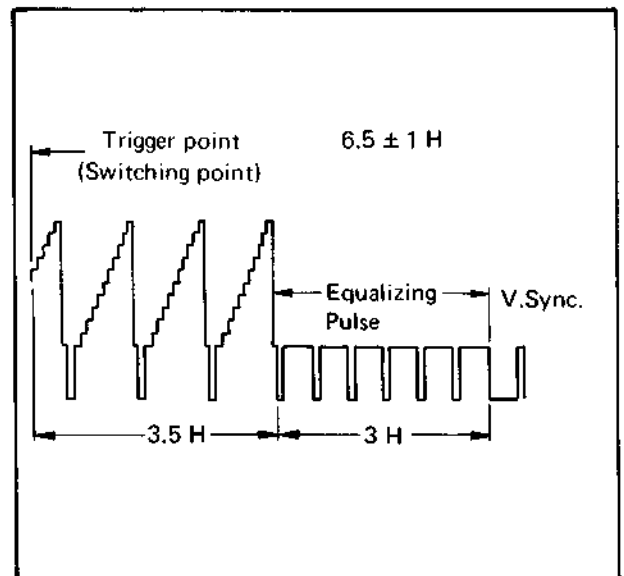

Fig. 6-15 Switching point adjustment
4. Connect the oscilloscope to TP-2 (VIDEO IN) on the Audio/Servo circuit board, and adjust R21 (CH-1 SW PHASE) so that the trigger point (switching point) is 5.5 to 7.5 H before the vertical sync signal as shown in Fig. 6-15.
5. Adjust R8 (REC SW) on Audio/Servo circuit board so that the trigger point (switching point) is 6.5 ± 0.5 H prior to the vertical sync signal. Refer to Fig. 6-15.